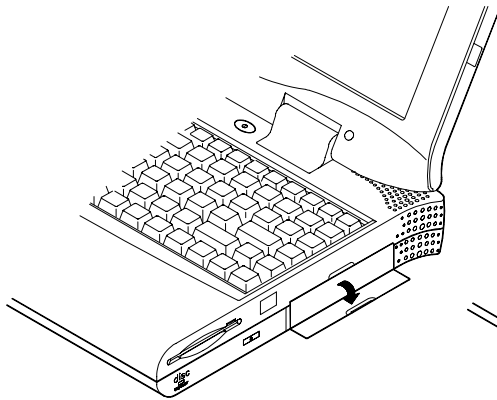

Figure 2-15
1. Open the access door (Figure 2-15).